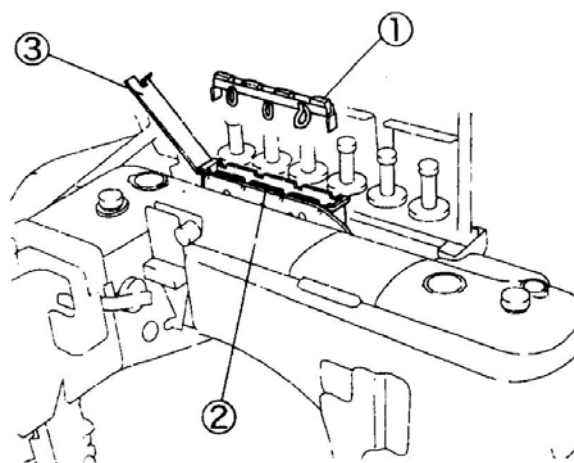

Fig.31
(Fig.31)
tank② when using.(Fig.31)